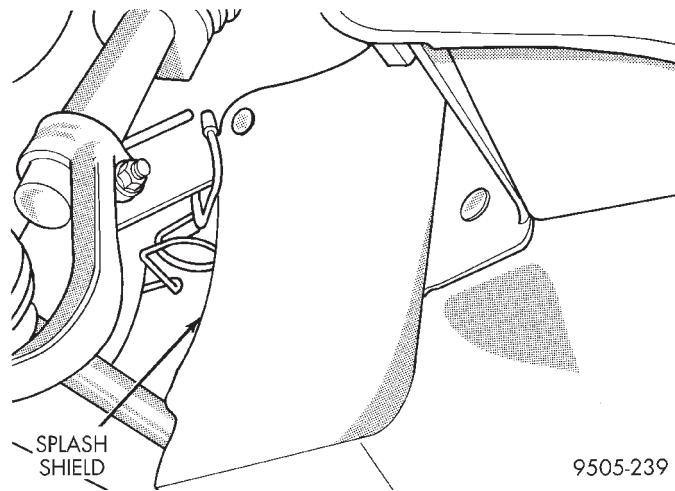
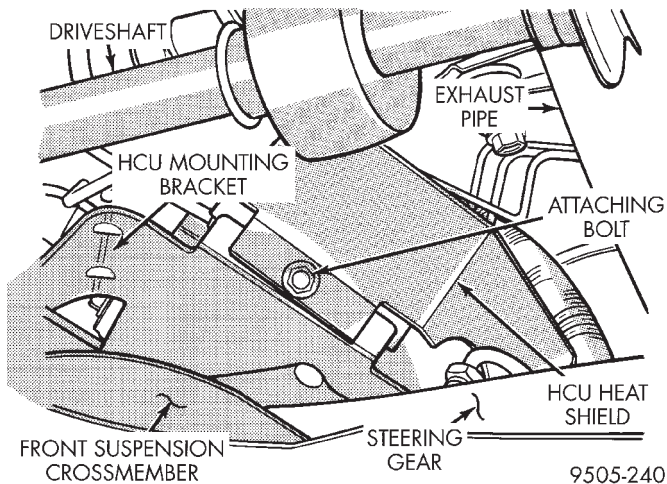

Fig. 15 Right Side Splash Shield
Fig. 16 HCU Heat Shield
(7) Remove right side engine compartment splash shield (Fig. 15) from the vehicle.
(8) Remove the HCU heat shield (Fig. 16) from the HCU mounting bracket.
(8) Install the HCU heat shield (Fig. 16) on the HCU mounting bracket. Install and securely tighten attaching bolt.
(9) Install exhaust system in vehicle using the reverse steps of its removal.
(10) Install right side engine compartment splash shield (Fig. 15) back on the vehicle.